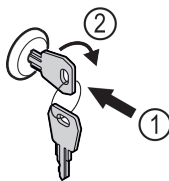

Fig. 169
- ▶ Insert the key. Fig. 169 (1)
- ▶ Turn the key clockwise by 90°. Fig. 169 (2)